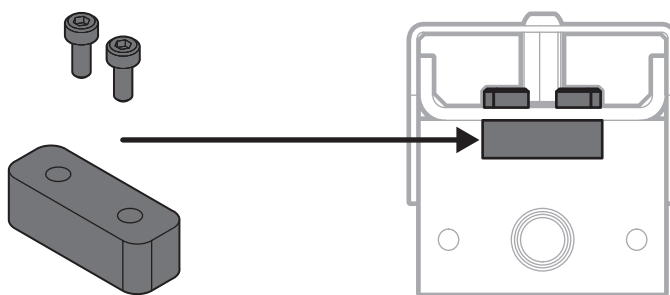

Fig. 7 Screwing the Levelling slider to Recoater.
17. Screw the Levelling slider in place of the Tribotape. Use the two M3x6mm screws from the supplied kit and the 2.5 mm allen key (fig. 7).